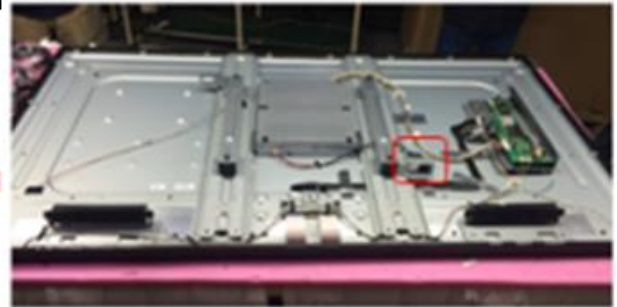

Fig 2
- ( 3 ) Peel off 1pc ground mark sticker <fig 2>.
- ( 1 ) remove interface board chassis protector screws \*2pcs M3\*6. Torque: 4.5+/-0.5kgf.cm. And remove chassis protective <fig 2>
- ( 2 ) remove interface board from chassis \*5pcs M3\*6. Torque: 4.5+/-0.5kgf .cm. And remove interface board <fig 2>.